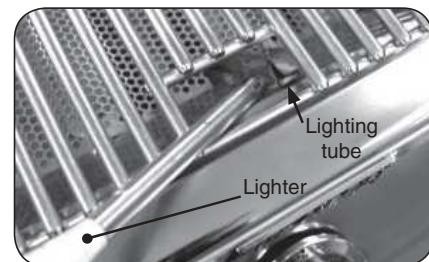

Fig. 23-2 - Manual lighting
2. Insert either a burning long-barrel butane lighter or a burning long-stem match through the cooking grid opening to the top of the lighting tube. (Fig. 23-2). For backburners, hold the flame against the surface of the backburner. For sideburners, hold the flame against the burner.
4. If the burner does not light within five (5) seconds of turning the control knob, **immediately depress the knob and turn the valve to OFF**. **WAIT FIVE (5) MINUTES** before repeating steps 2 through 4 of the MANUAL LIGHTING instructions.